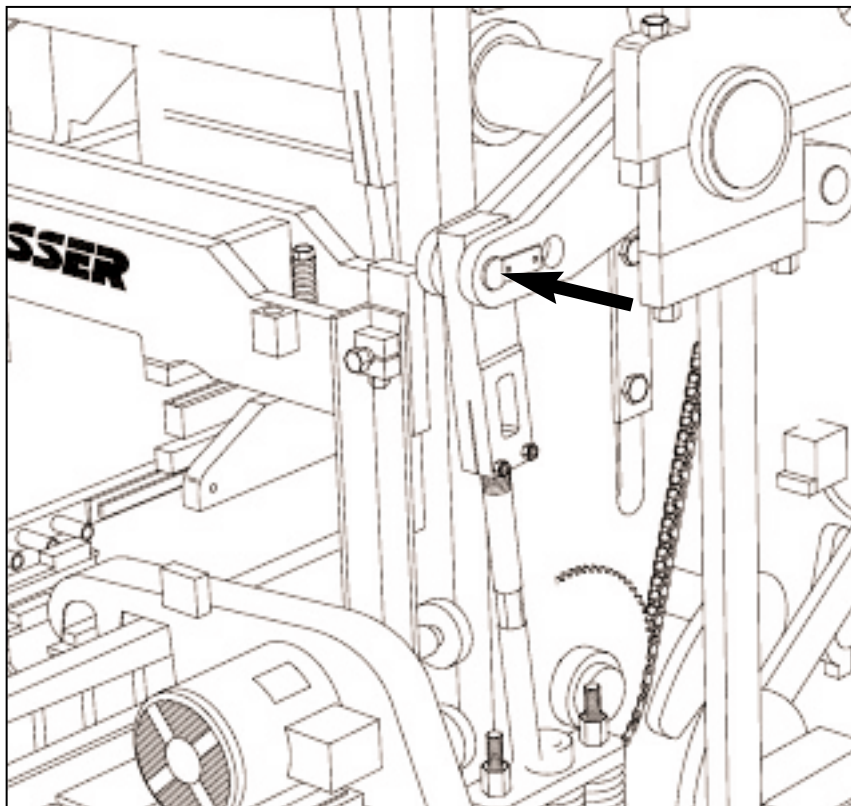

Figure 18.20 PALLET RECEIVER SHAFT POSITION.
18.2.1 The following items should be positioned as shown in figures 18.20 and 18.21:
- a. Pallet receiver shaft - position pins in outside holes (long stroke) (see figure 18.20 below).